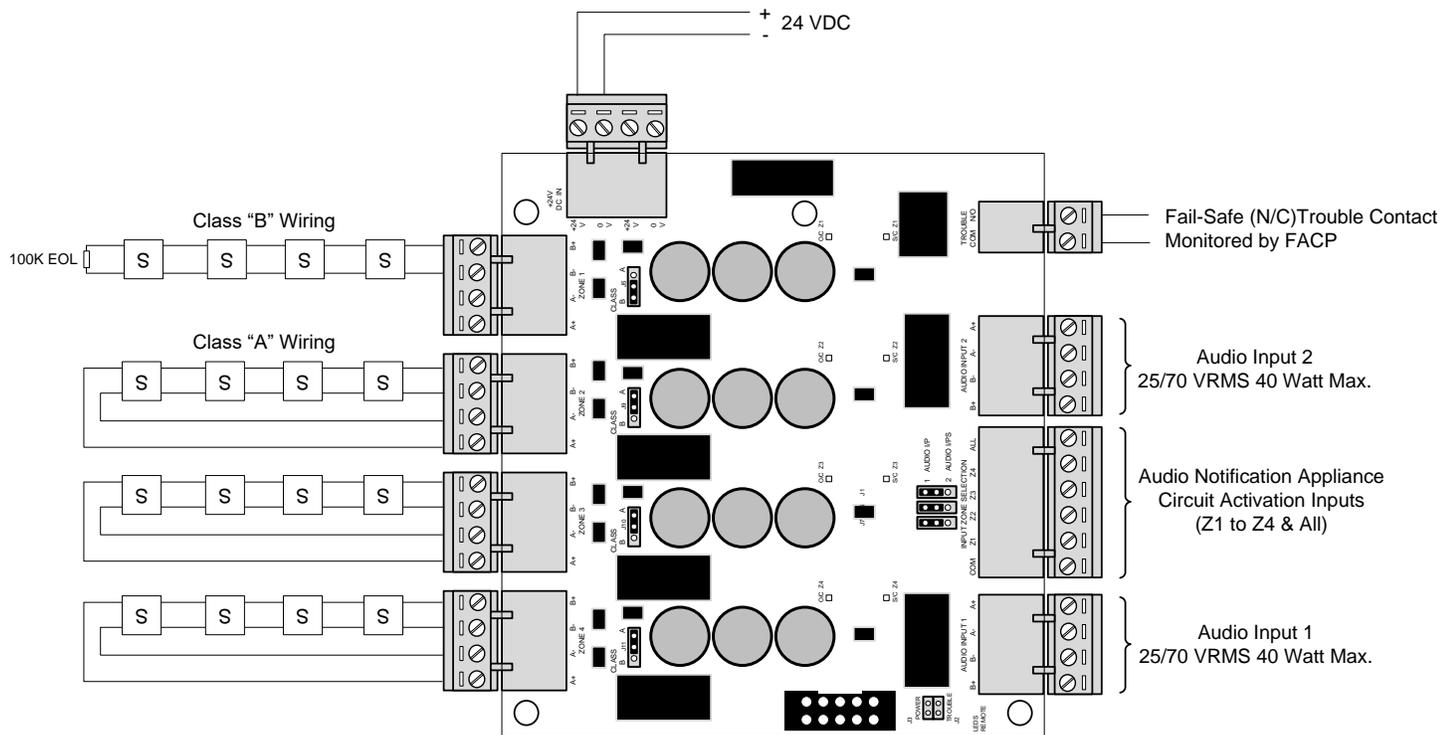

Figure 26 –NX-ZS Audio Zone Splitter Module
Wire 24 VDC (from NX-AMP-80 power output terminals) to the power input terminals of the NX-ZS audio zone splitter module. Wire one or both NX-AMP-80 amplifiers (audio notification appliance circuits) to the Audio Input 1 and Audio Input 2 terminals of the NX-ZS module and set jumpers J6 and J7 to their appropriate position [1 audio input or 2] (see figure 26).
**Note: The NX-ZS audio zone splitter module reports status open circuit, short circuit and grounds via the associated NX-AMP-80 amplifier (audio notification appliance circuit). In addition, a fail-safe trouble relay contact is available which opens on any splitter audio notification appliance circuit trouble condition or on loss of 24 VDC input power, this trouble relay contact can be monitored for individual NX-ZS trouble indication (see figure 26).**
If replacing an NX-ZS audio zone splitter module, remove power (AC and battery) from the system. Remove all field wiring terminal blocks from the NX-ZS module and remove the three (3) screws securing the module to the NX-AMP-80 amplifier. Place the new NX-ZS module over the metal hexagon spacers and reinsert and tighten the previously removed three (3) screws. It is critical that these screws be tightly secured as they are required for proper earth ground connection. Reinstall all removed field wiring terminal blocks from the NX-ZS module and reconnect AC and battery power to the system (see figure 26).